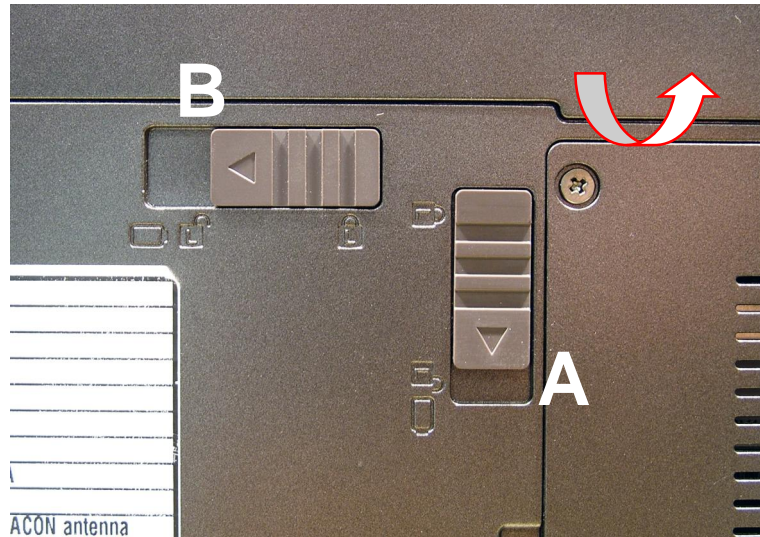

Fig. 1 Removing the battery.
4. Slide the battery release latch (B) to the release position (see Fig. 1 on page 4).
6. Take the battery out of the compartment (see Fig. 1 on page 4).